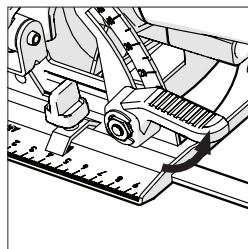

Fig. 13
- Loosen the Bevel Locking Mechanism found at the front of the machine, by pulling the lever upwards. **(Fig. 13)**